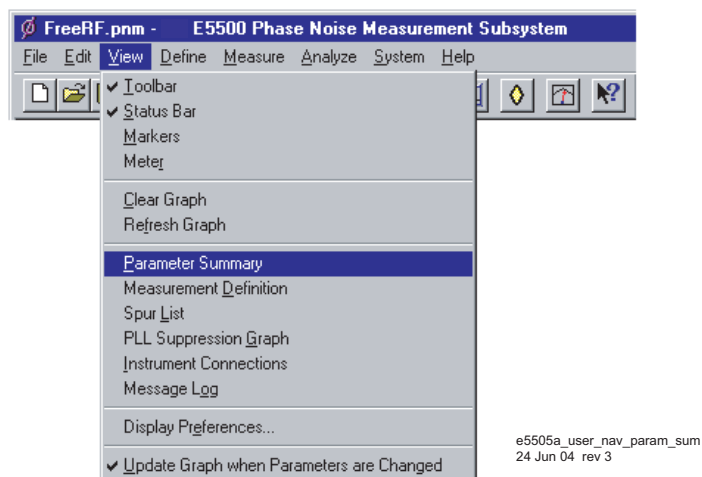

Figure 269 Navigate to parameter summary
- 1 On the **View** menu, click **Parameter Summary** (Figure 269).